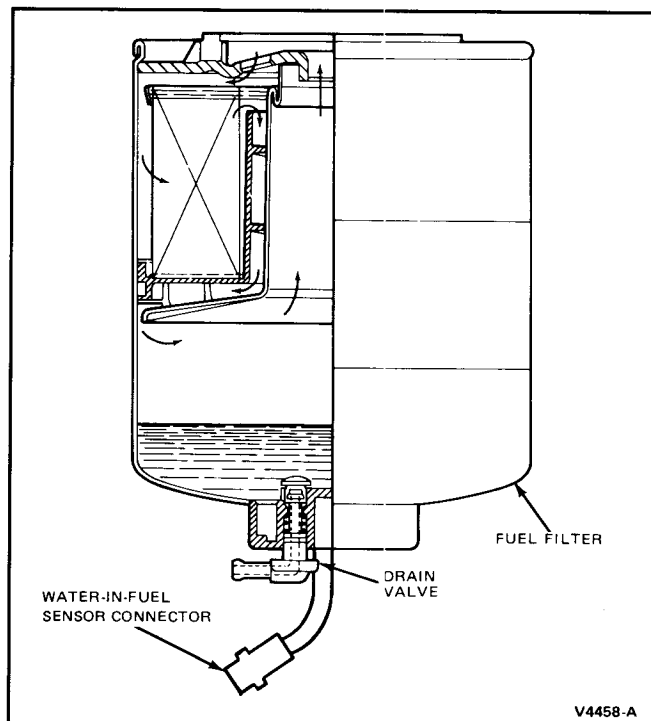

FIG. 2 Fuel Filter Drain Valve
When the water level in the fuel filter reaches a certain point, a sensor in the filter turns On the Water-in-Fuel indicator on the instrument panel. When this indicator comes on, the vehicle should be stopped as soon as possible and the water drained from the filter. This is accomplished by opening the vent screw on the top of the filter and then depressing the drain valve on the bottom of the filter cartridge (Fig. 2).
1. Drain the fuel from the fuel filter by opening the vent screw on the top of the filter and then depressing the drain valve on the bottom of the filter (Fig. 2).